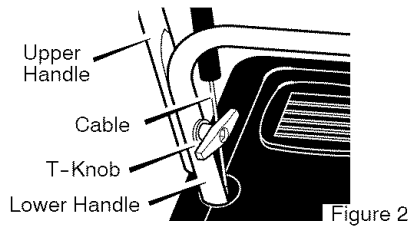

Figure 2
1. Remove the **T-knobs** and U-bolts from the **lower handle** (Figure 2).
Note: Make sure that the cable is not pinched between the upper and lower handle. Make sure the cable is routed as shown in Figure 2.